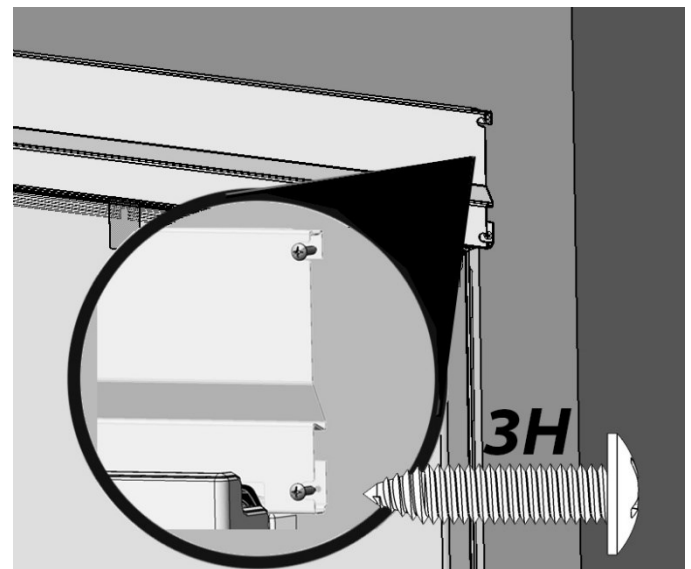

Figure 19
- b. Drill 1/8" pilot holes and fasten two 3H screws on the right side of the Top Trim with a Phillips driver to cabinets (Figure 19).